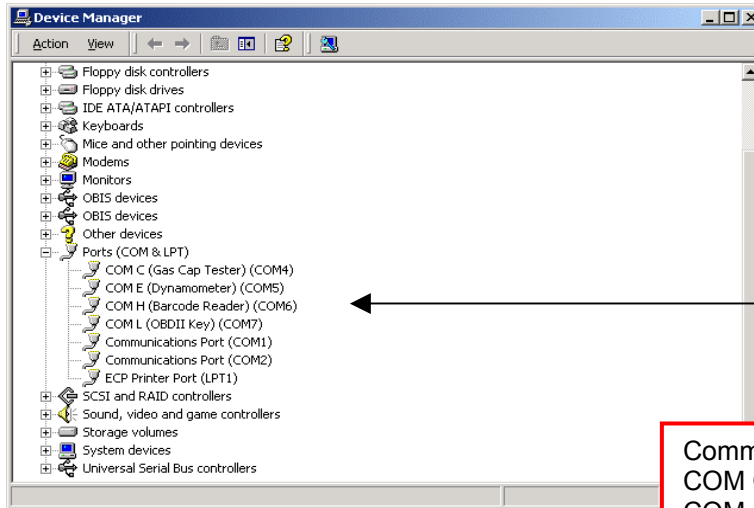

Figure 12
**NOTE:** *ENSURE THERE ARE NO YELLOW (!) OR (?) OR RED (X) CHECK MARKS (ERRORS) IN THE DEVICE MANAGER (SEE FIGURES 12, 13 BELOW).*